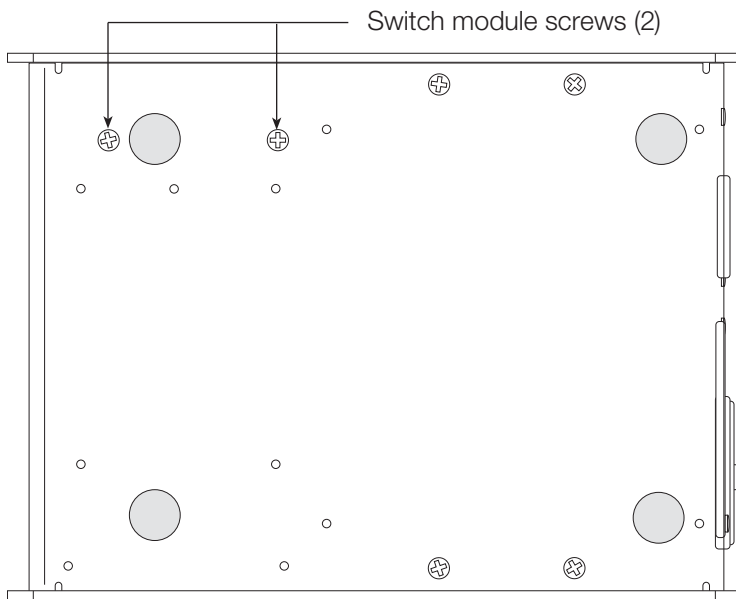

Figure 2-11. Bottom of SP2200, showing screws for attaching switch module
1. Turn the printer on its side and remove the two screws shown in Figure 2-11. (These screws are used, in the same locations, to attach the switch module.) Remove the blank plate assembly from the base enclosure.